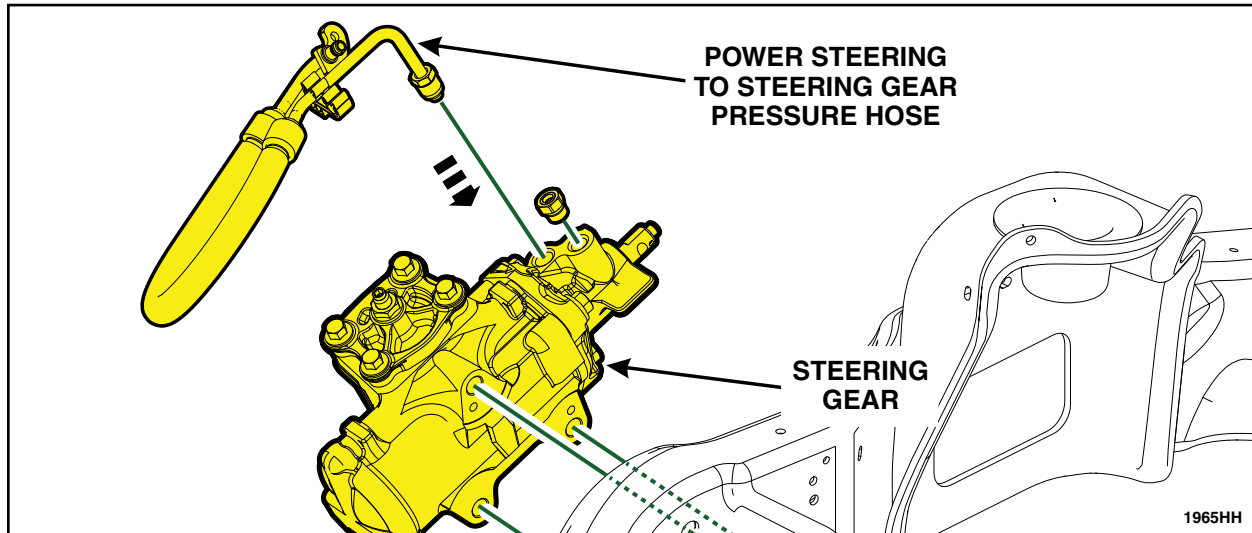

FIGURE 40
10. Connect the *new* power steering pressure hose at the steering gear. See Figure 40.